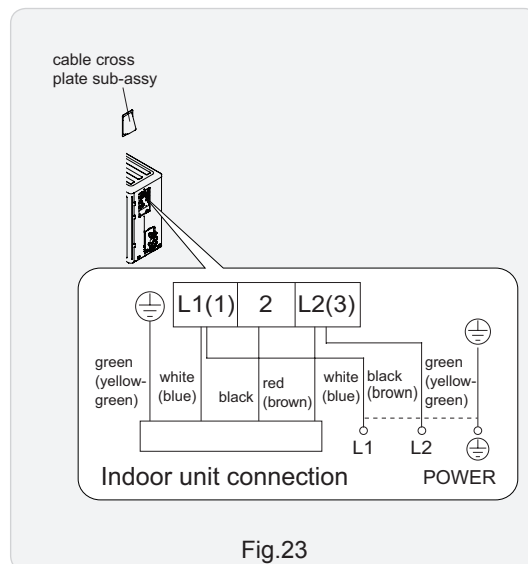

Fig.23
- (1) Remove the wire clip; connect the power connection wire and signal control wire (only for cooling and heating unit) to the wiring terminal according to the color; fix them with screws. (As show in Fig.23)